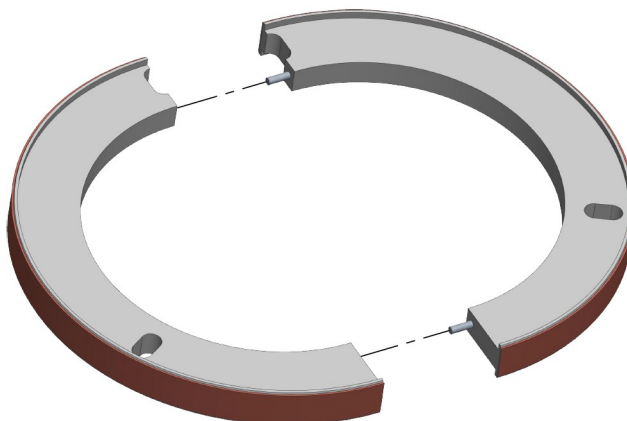

Figure 4 - Assembling the half rings
1. Assemble the half rings, as shown in Figure 4;